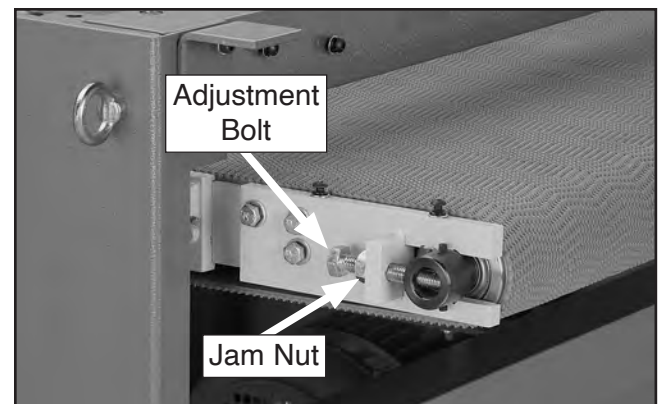

Figure 56. Conveyor tensioning & tracking controls (guard removed for clarity).
1. On loose side of conveyor, loosen jam nut (see **Figure 56**) and tighten adjustment bolt to increase conveyor belt tension.